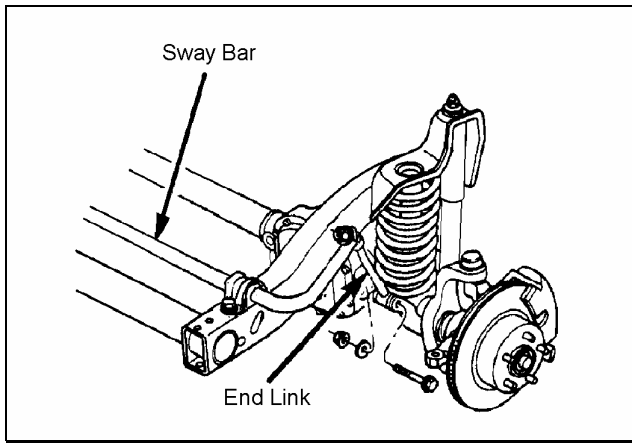

Figure 3
- 7) ☐ Position a floor jack under the front axle for support. Remove both front sway bar end links. See Figure 3.